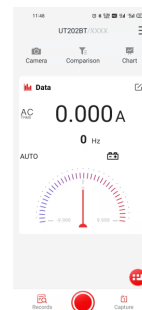

Figure 15
- 2).IDMM2.0 has multiple function modules such as Bluetooth wireless communication, datalogging, device management, report generation, data share, data synchronization. ACA measurement interface is shown as figure 15. Please refer to the user manual for the function modules.